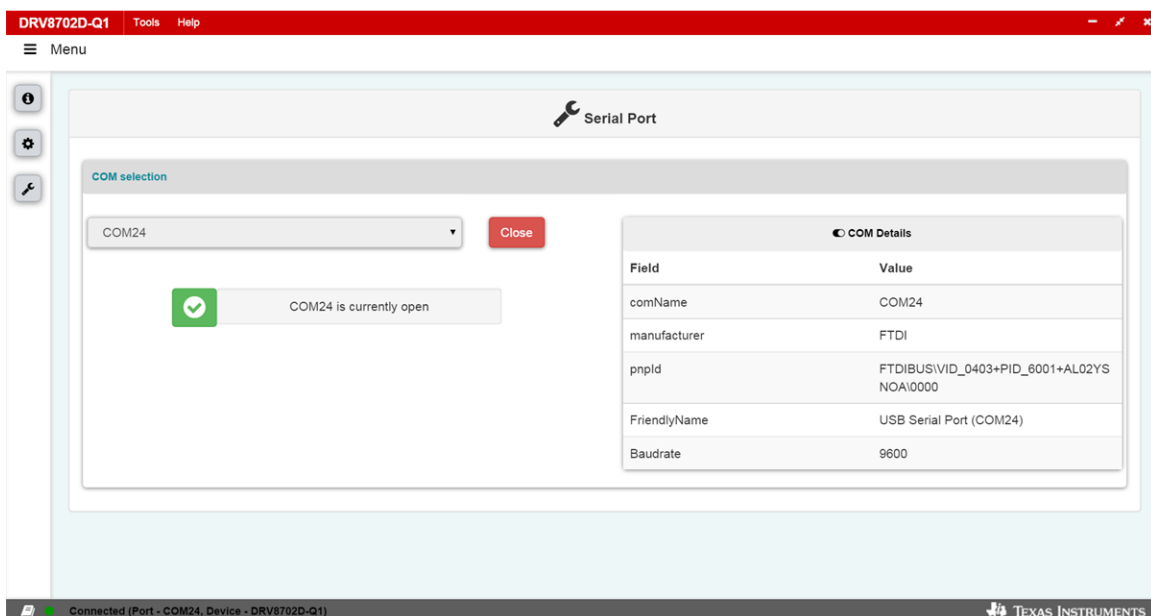

Figure 6. DRV8702D-Q1-EVM GUI (COM Opened)
- Step 6. After the GUI connects, the window in Figure 6 is displayed. Verify that the COM port name (COM port number may differ), and baud rate match what is shown in Figure 6. The bottom left corner of the status bar shows a green indicator to indicate the connection with the opened COM port number and connected device's name mentioned in the bracket.